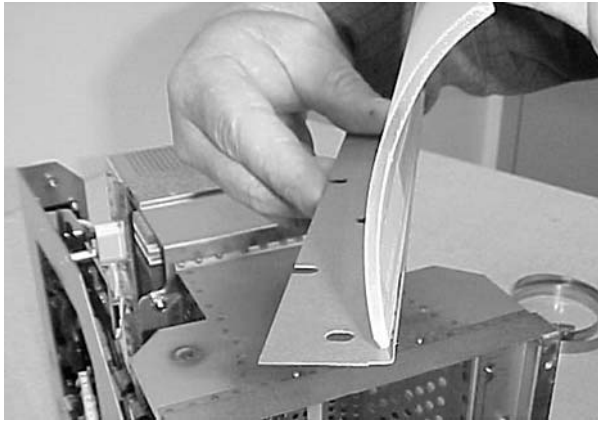

Figure 4-5 Focus Reflector Curve and Retaining Bracket
**Focus Reflectors:** See Figures 4-5 and 4-6. The edge of the reflector will sit on the retainer springs on the inside edge of the bracket.